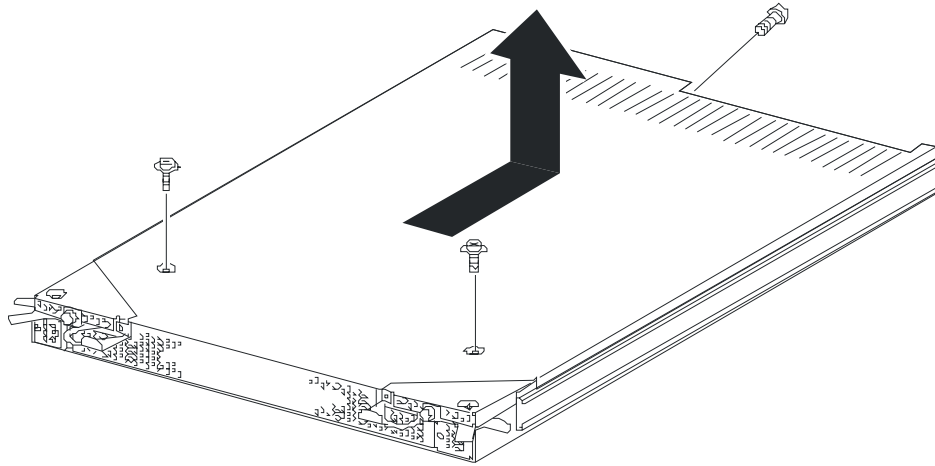

Figure 4-26. Removing the Three Screws Securing the Top cover of the PCI Module
2. Remove the three screws from the top and rear of the CPU module securing its top cover. See Figure 4-26.
3. Remove the top cover of the CPU module by sliding it slightly towards the rear of the module until it stops and its hooks disengage from the tab slots in the module chassis and then pull it straight up. See Figure 4-26.